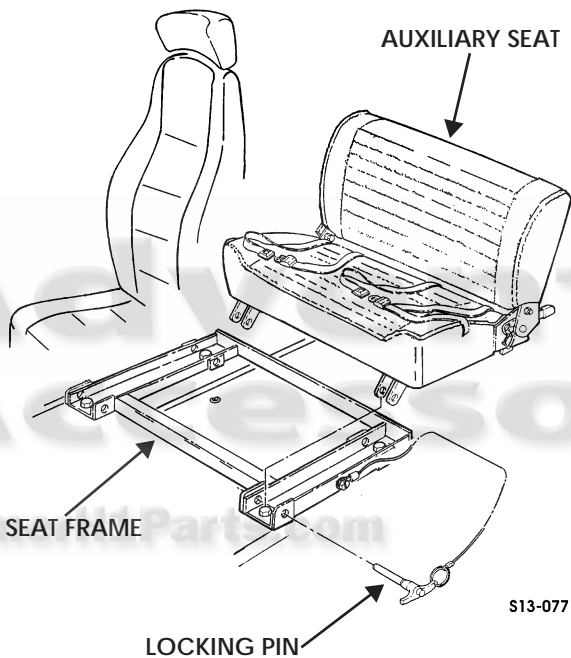

Figure 13-102: Auxiliary Seat
1. Release and remove four locking pins from auxiliary seat frame and auxiliary seat (Figure 13-102).